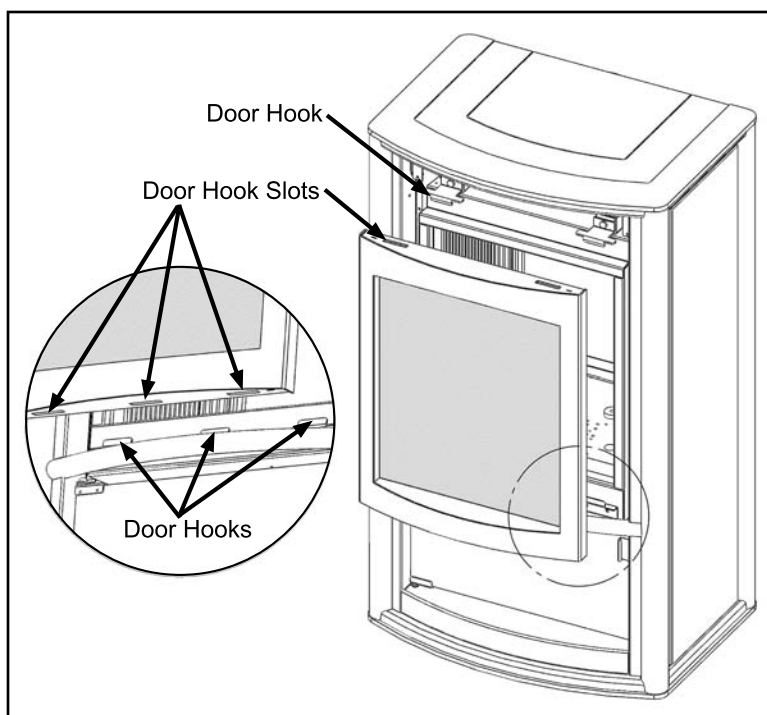

Figure 7: Door Removal / Installation.
3. Pull the two (2) door hooks, on top of the door, forward and up (see Figure 7).